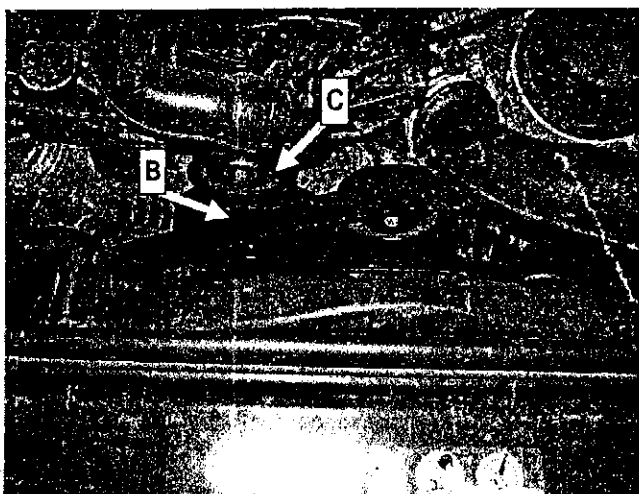

Figure 2
3. Detach V-belt (B) in area of guide pulley (C) (figure 2).
4. Replace guide pulley (C) (Nm 30; figure 2).